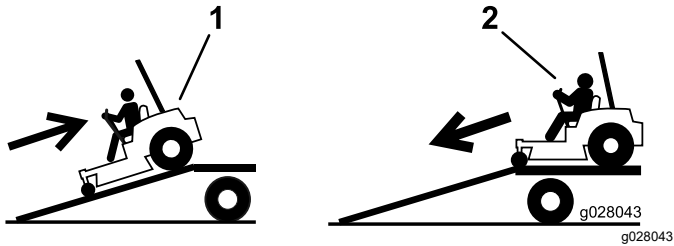

Figure 36
4. Back the machine up the ramp (Figure 36).
2. Drive the machine forward down the ramp (Figure 36).